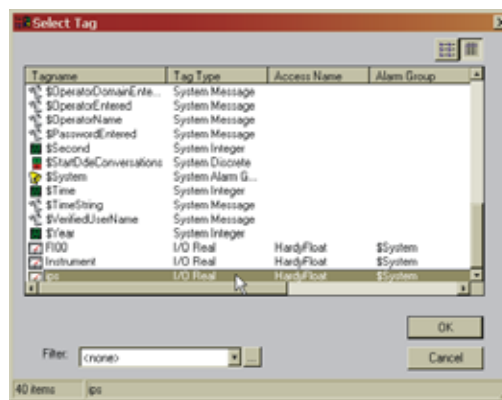

FIG. 249: WINDOWMAKER/SELECT TAG DIALOG BOX/SELECTING IPS
- Step 40. Click on Select. The Select Tag dialog box appears. (See Fig. 249)